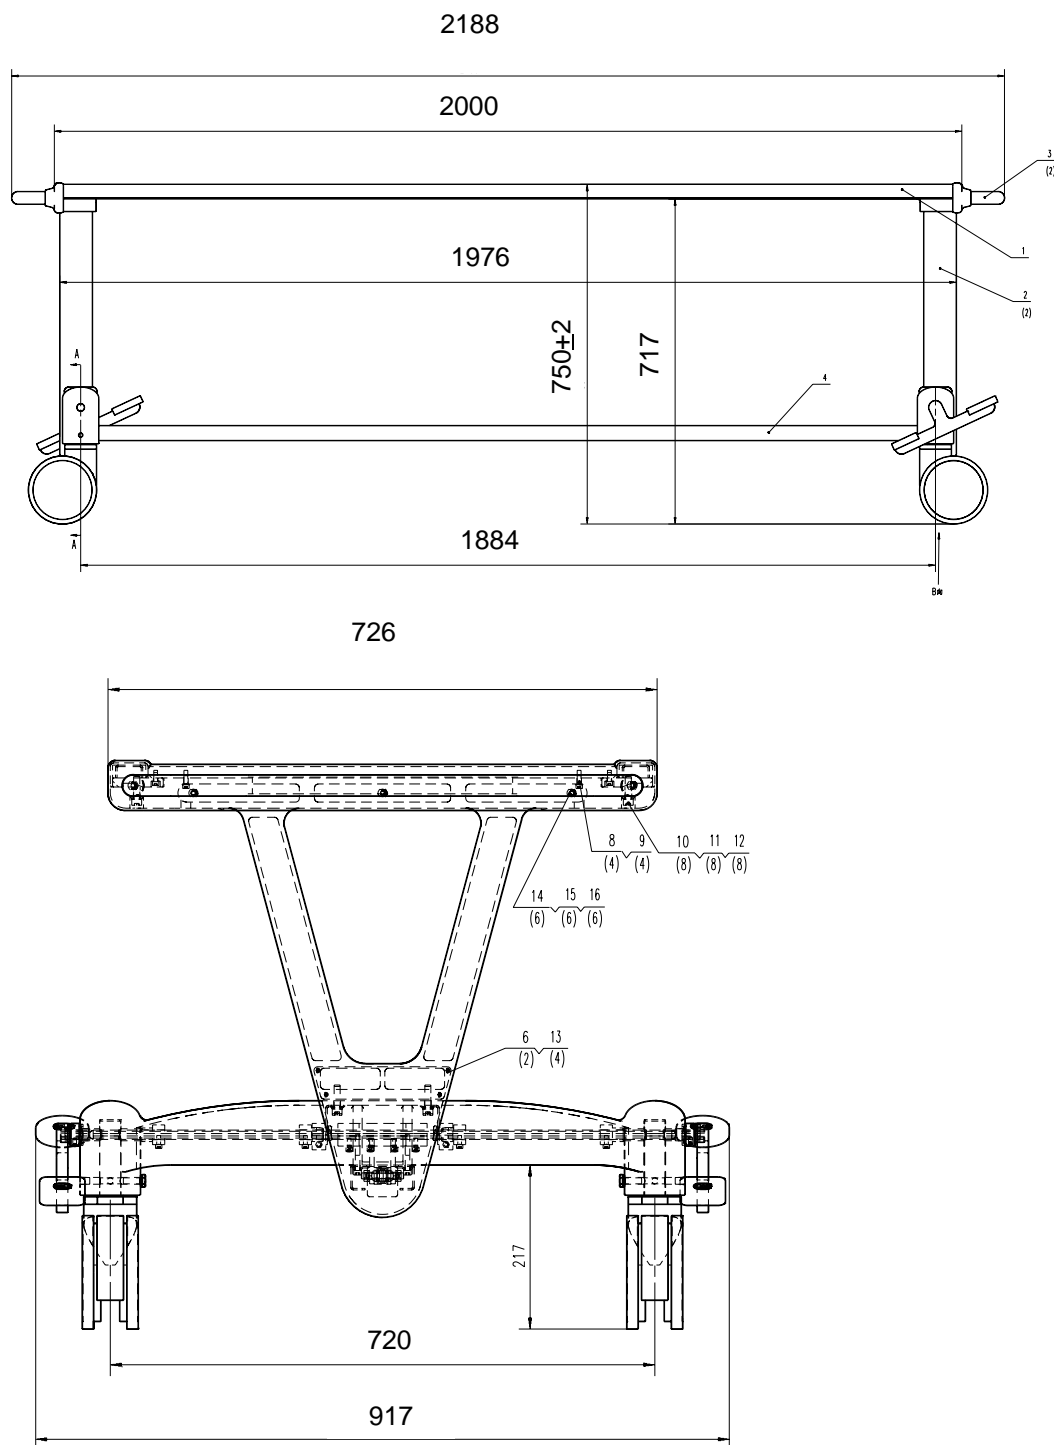

Figure 5-9 Definium™ 6000 Radiographic Stretcher Table Views
- Radiographic Stretcher Table (option) - Figure 5-9.